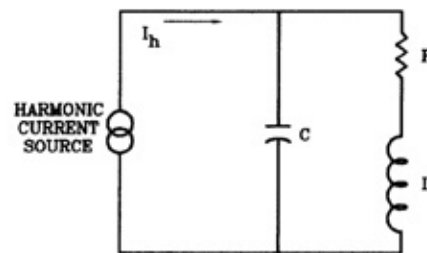

Figure 3
When a capacitor bank is added to a power system, it is effectively connected in parallel with the system's impedance, which is primarily inductive. As far as the harmonic source is concerned, it sees a capacitor in parallel with an inductor. **Figure 3** shows the model circuit for this system on a per phase basis. Resistor 'R' represents the inevitable system losses.
Graph 4 is the impedance plot, as seen by the harmonic source in figure 3, for a typical system consisting of 500 kVAR connected to a 1500 KVA, 480 volt transformer. (While impedance magnitudes are dependent on system resistance, resonant frequency is primarily a function of inductance (L) and capacitance (C).) The quick and simple way to calculate the system's harmonic resonance is through the following relationship derived from the system's reactances